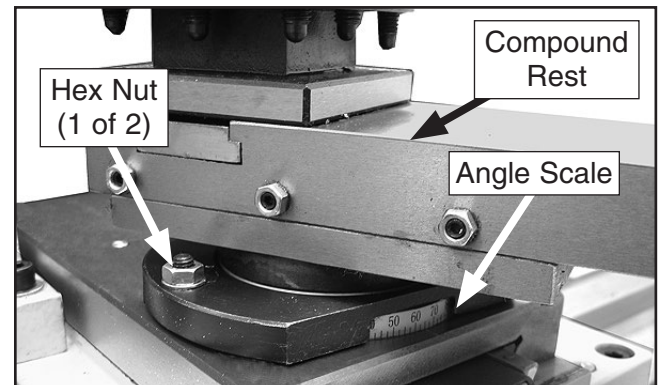

Figure 49. Compound rest.
1. Loosen the two hex nuts at the base of the compound rest (1 of 2 shown in **Figure 49**).